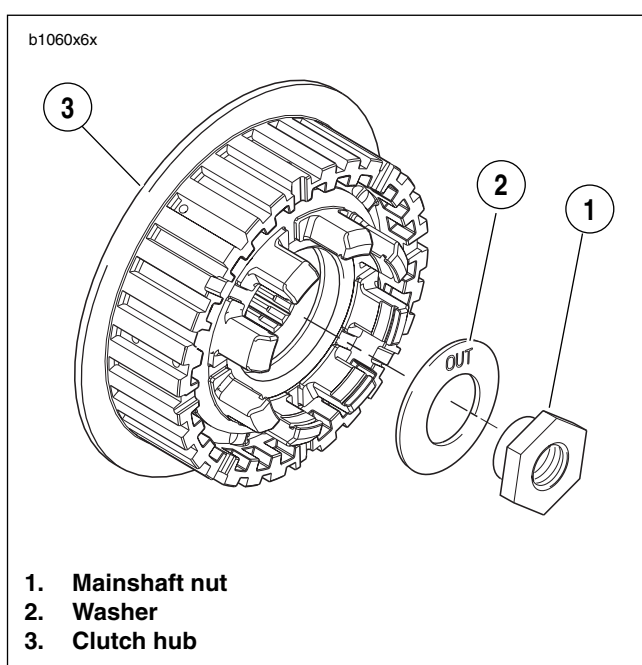

Figure 6-32. Mainshaft Nut and Washer
See Figure 6-32. Washer must be installed with the word "out" facing the mainshaft nut or transmission may be damaged.
6. See Figure 6-32. Install mainshaft washer (2) and nut (1).
- b. Place washer (2) on mainshaft with the word "out" facing away from clutch hub.
- c. Install nut (**left-hand threads**) (1). Tighten to 70-80 ft-lbs (94.9-108.5 Nm).